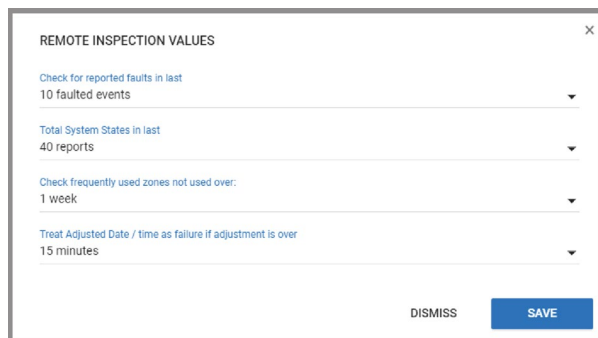

Figure 31: Remote Inspection Values dialog box
2. In the first row, type the panel name in column A, type the inspection date in column B, and type the number of months between each repetition in column C. For more information, see Figure 31: Spreadsheet example.